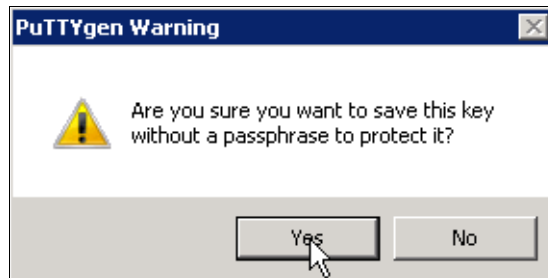

Figure 8-5 Warning message
6. You are prompted with a warning message (Figure 8-5). Click **Yes** to save the private key without a passphrase.